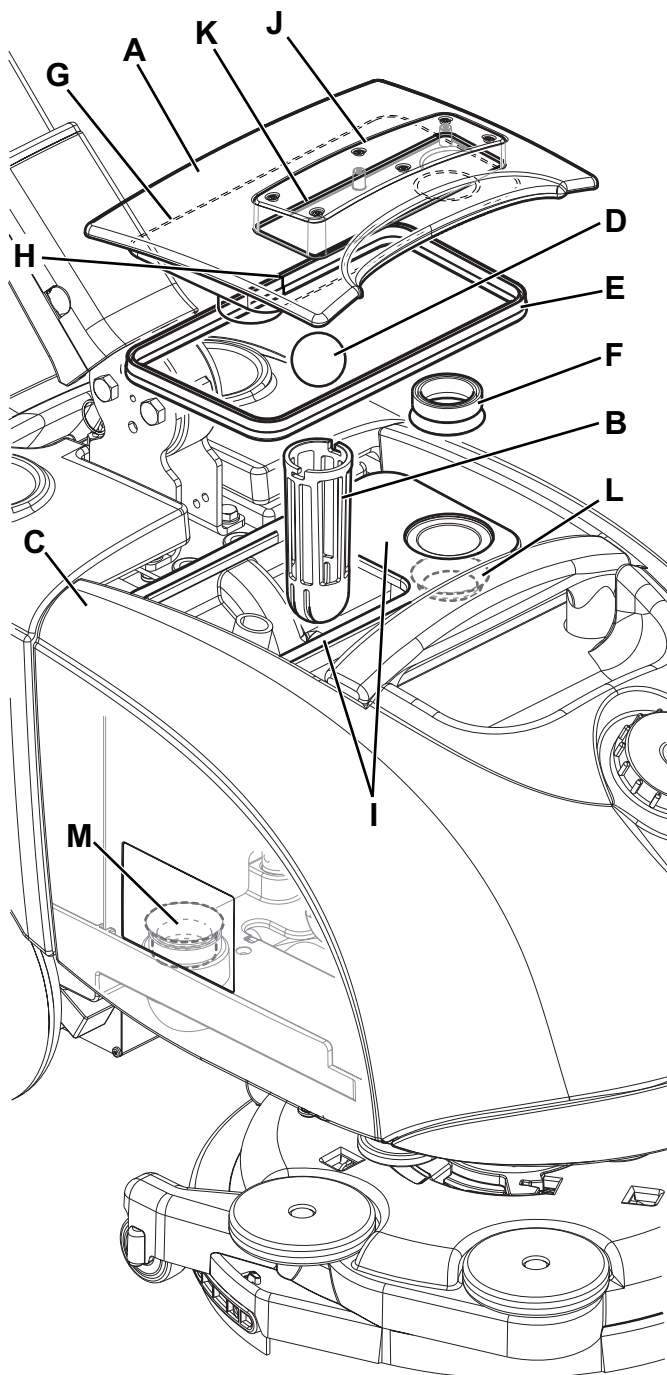

Figure 7
2. Check that the function selection knob (31) is turned to "0" and disconnect the battery connector (7).
3. Remove the cover (A, Fig. 7), then clean and wash the cover and the vacuum grid (B) with clean water.
4. Drain the water from the tanks (C) and clean them.
5. If necessary, disassemble the grid (B) and remove the float (D), then clean with care and reinstall.
6. Check the cover gaskets (E) and (F) for integrity.